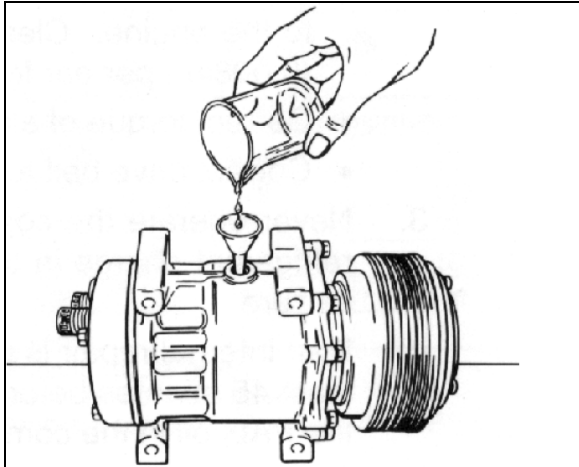

FIGURE 39
11. Add PAG oil as necessary to the container and pour back into the compressor (Figure 39) according to the following formula: